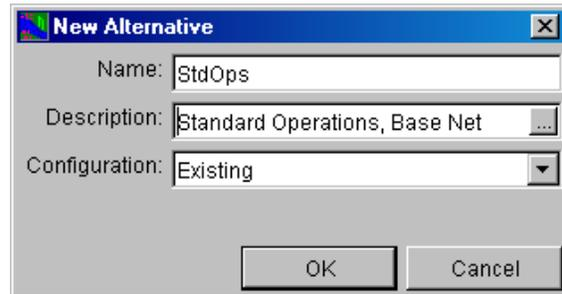

Figure 13.2 New Alternative Dialog Box
1. From the **Alternative** menu of the Alternative Editor, select **New**. The **New Alternative** dialog box will open (Figure 13.2).